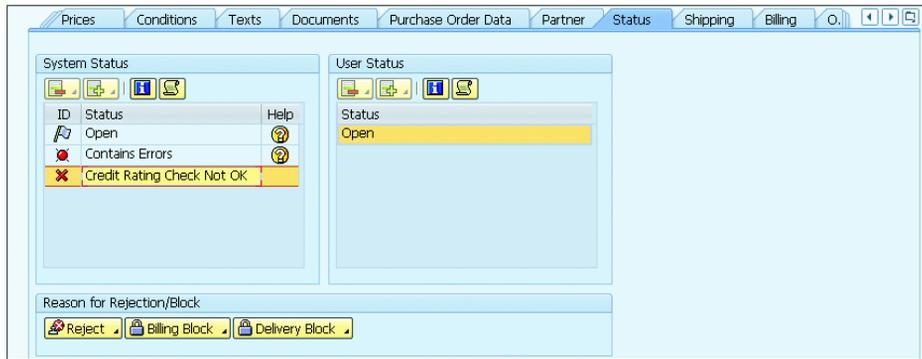

Figure 6.59 Order Status Showing Credit Rating Check Not OK
6. Create the order with the same master data, and you'll see the CUSTOMER AT RISK is flagged with CREDIT RATING CHECK NOT OK (see Figure 6.59).